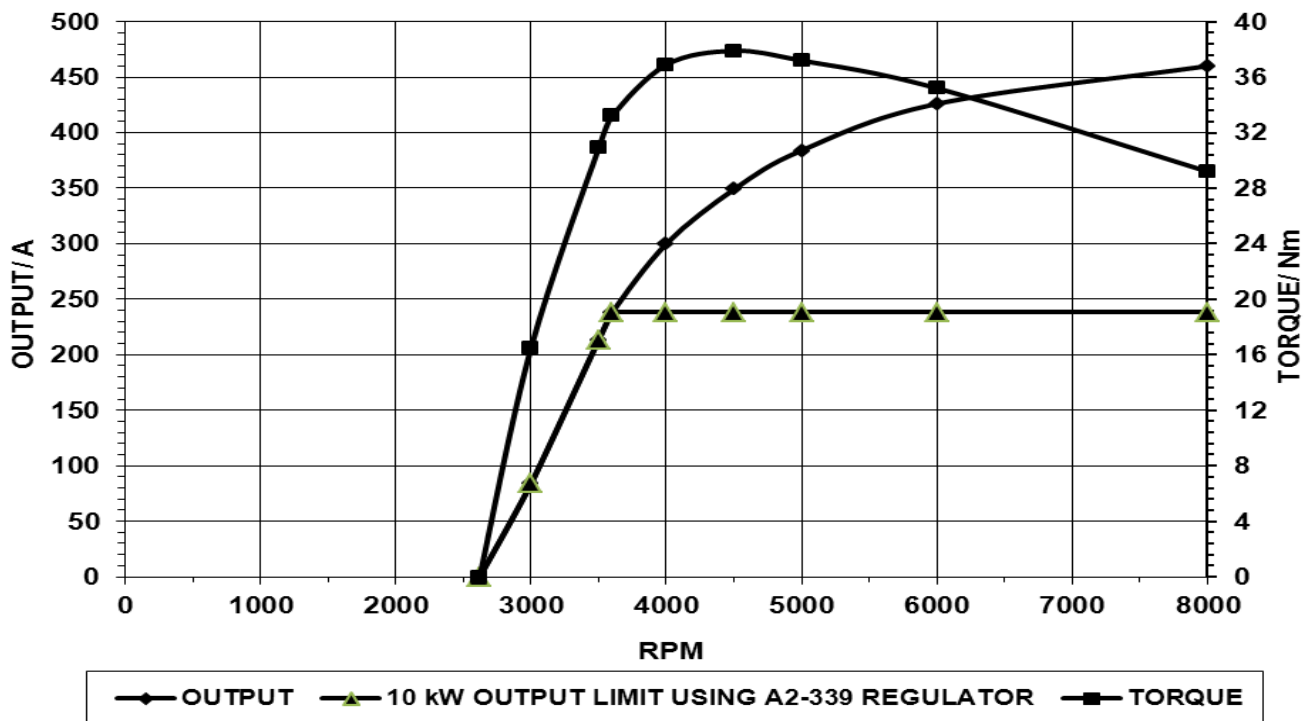

Figure 4 — 10kW Output Limiting Curve with A2-339 Regulator
- limits output power to 10kW throughout RPM range. See Figure 4 for output curves.